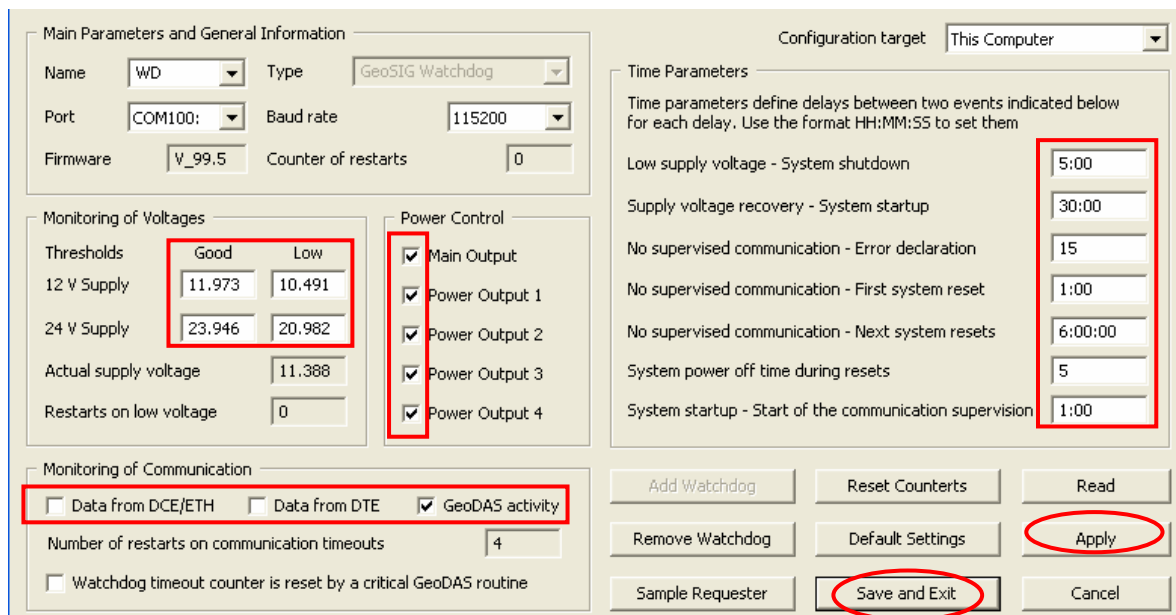

Figure 13: Watchdogs settings of the COM module
- Change all values as seen in Figure 13